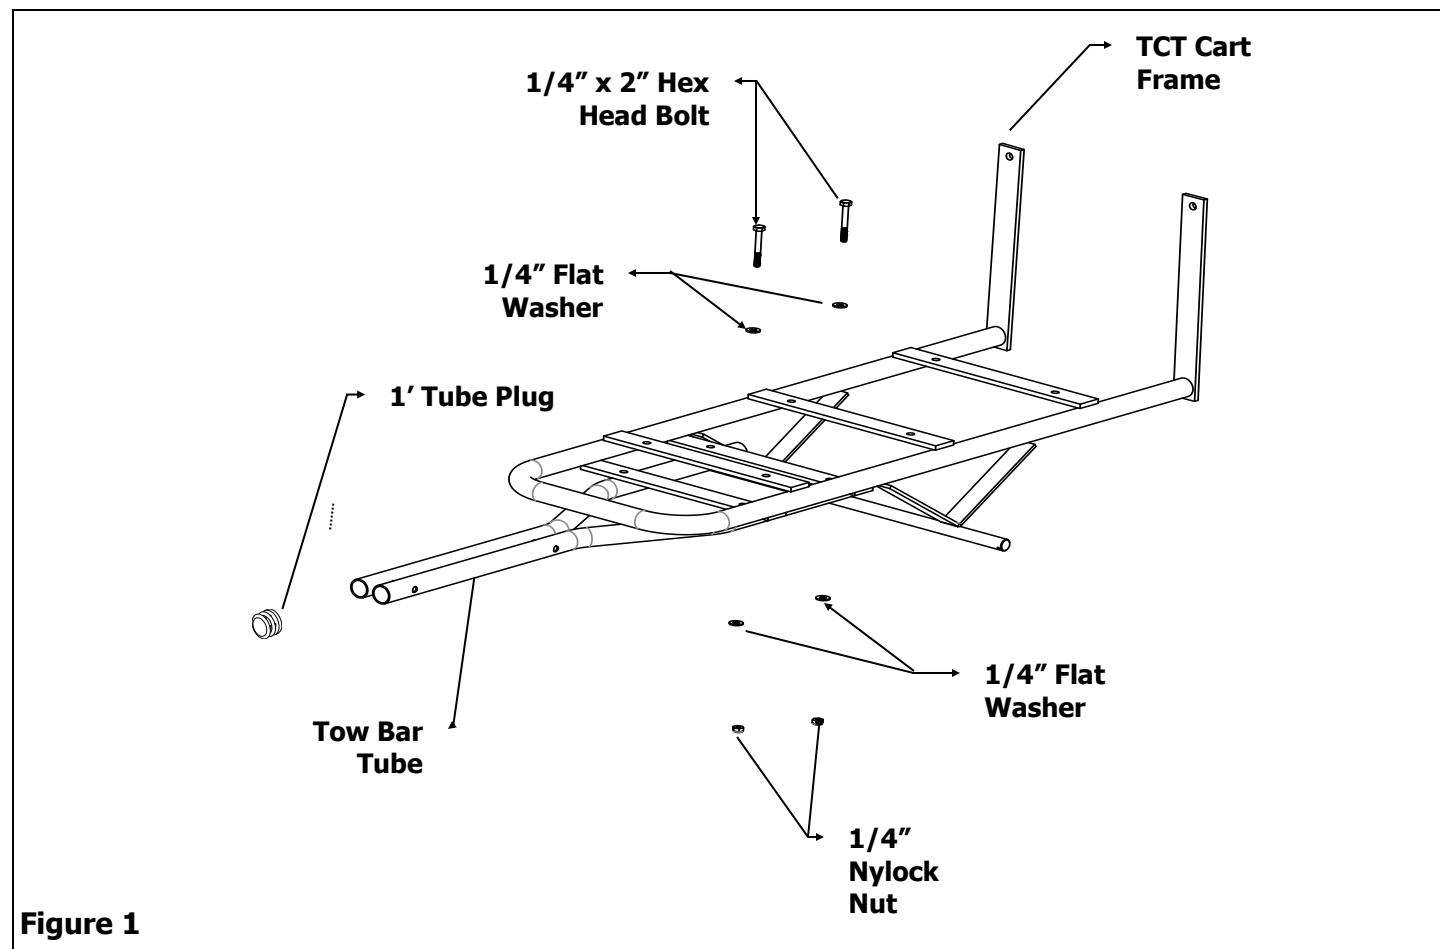

Figure 1
1. Place the Tow Bar Tubes under the front of TCT Cart Frame. Take four 1/4" x 2" Hex Head Bolts, place a 1/4" Flat Washer on each bolt, insert the bolts into the first two frame holes on each side. Insert the bolt through the Frame holes and through the Tow Bar Tubes, add one more 1/4" Flat Washer to each bolt and secure with 1/4" Nylock Nuts. Insert 1" Tube Plugs into front holes of Tow Bar Tubes. See Figure 1.